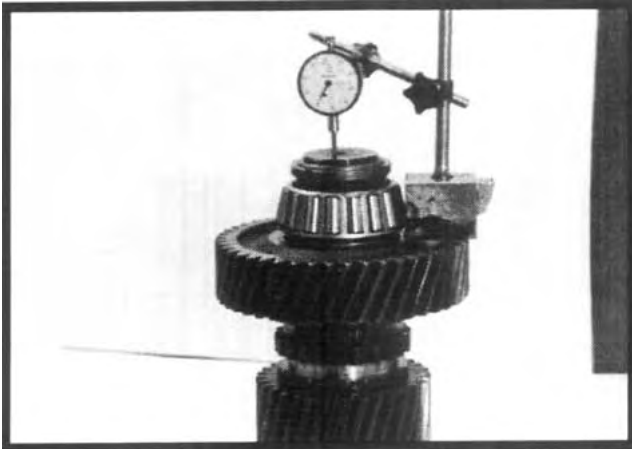

Figure 4.15
1. To facilitate reassembly, the gear end float on the shaft should be checked prior to disassembly. Install a dial indicator with a magnetic base as pictured in Figure 4.15. Lift upward on the gear and note the amount of end float. The specified amount of end float is between .000 and .002 inches. A greater amount usually indicates worn bearings.